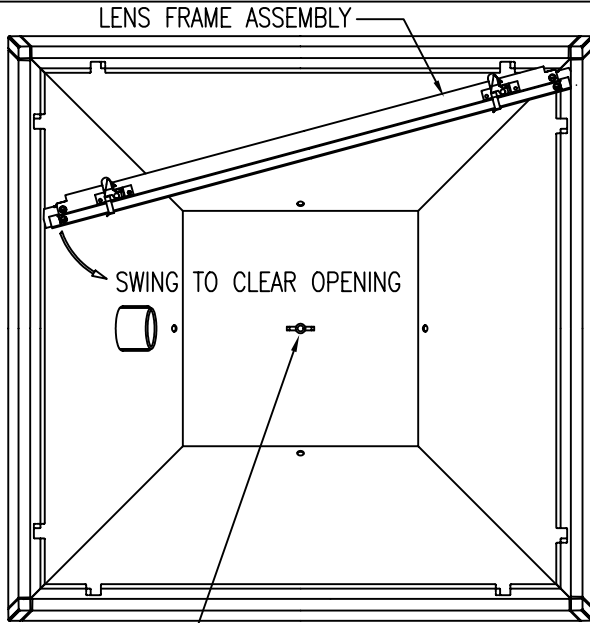

FIG. 1
2. SWING LENS FRAME ASSEMBLY ON ONE CORNER TO CLEAR FIXTURE'S OPENING (SEE FIG.1) AND REMOVE LENS FRAME ASSEMBLY.